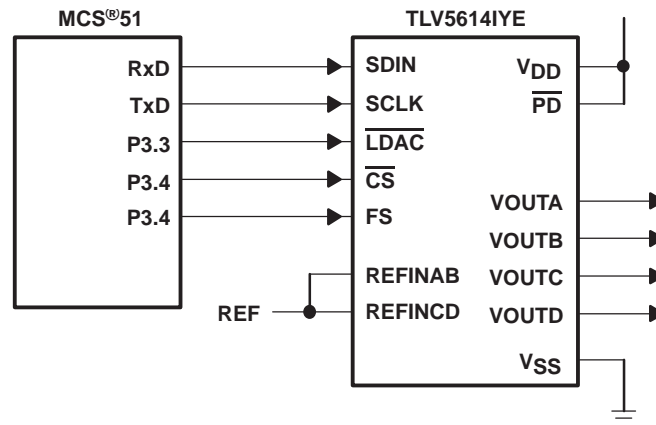

Figure 19. TLV5614IYE Interfaced With MCS[®]51
Figure 19 shows an example of how to connect the TLV5614IYE to an MCS[®]51 Microcontroller. The serial DAC input data and external control signals are sent via I/O Port 3 of the controller. The serial data is sent on the RxD line, with the serial clock output on the TxD line. Port 3 bits 3, 4, and 5 are configured as outputs to provide the DAC latch update (LDAC), chip select ($\overline{\text{CS}}$) and frame sync (FS) signals for the TLV5614IYE. The active low power down pin ($\overline{\text{PD}}$) of the TLV5614IYE is pulled high to ensure that the DACs are enabled.